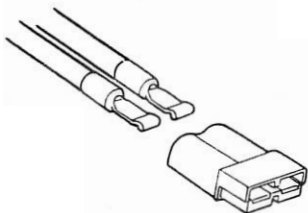

Fig. 1
3. After solder joints have cooled, push wire and contact assemblies into housings as shown in Fig. 1. Be sure positive wire goes into the positive side of housing, and negative wire is into negative side of housing (Positive (+) and Negative (-) are marked on housing). Make sure lip of contacts snap and lock into spring loaded clips in housing.